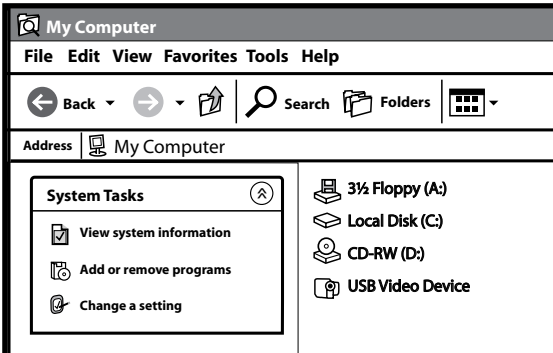

Figure 8
3. Double-click the "USB Video Device" icon (fig. 8). The Windows Picture and Fax Viewer software that is included with Microsoft Windows will open.